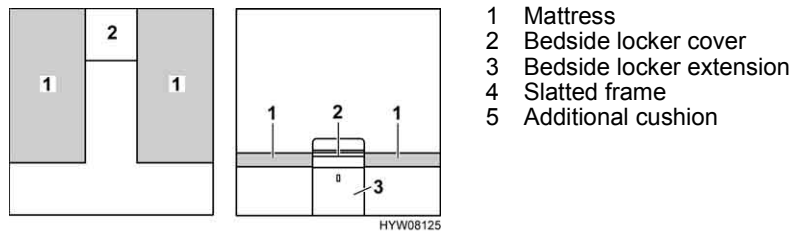

Fig. 117 Prior to conversion
- Remove the bedside locker cover (Fig. 117,2) and put it to one side.